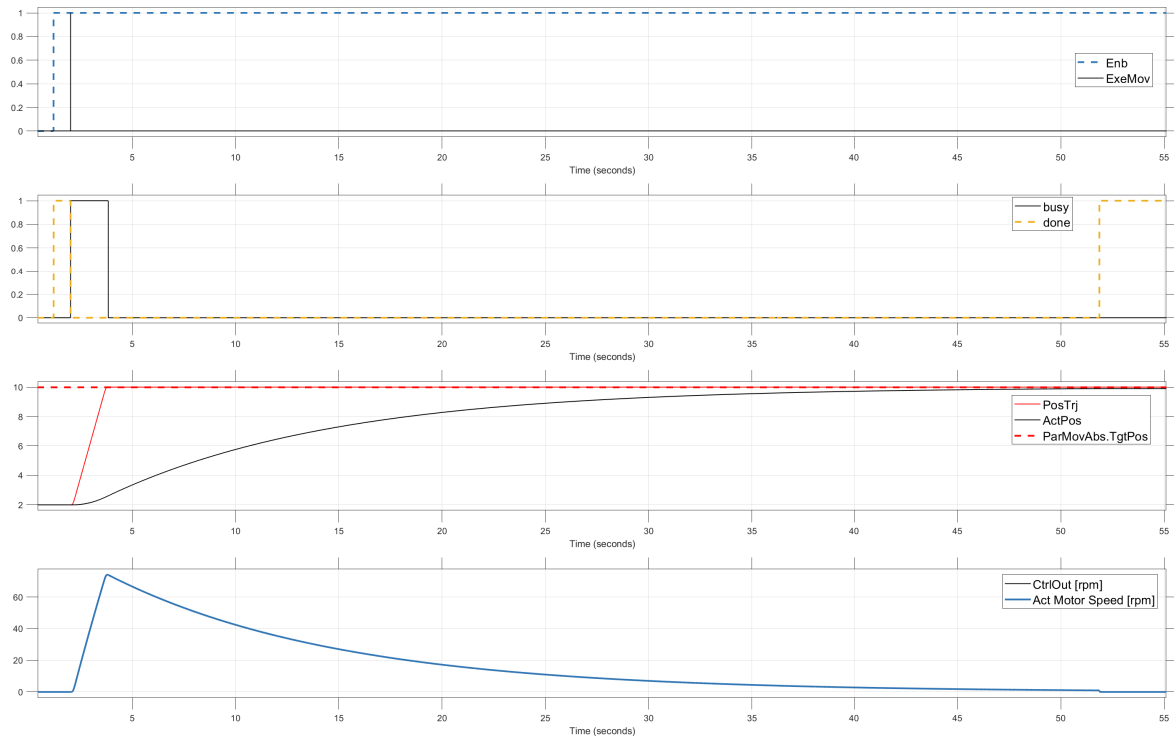

Figure 18: Example with K_p to small!! ($K_p = 10$, Window = 0.2mm, TuneTime = 0.3s)
- The goal at this stage is to ensure that the actual position and the generated position trajectory (*PosTrj* output) are parallel. Do not focus on target accuracy at this point. See figure 18.